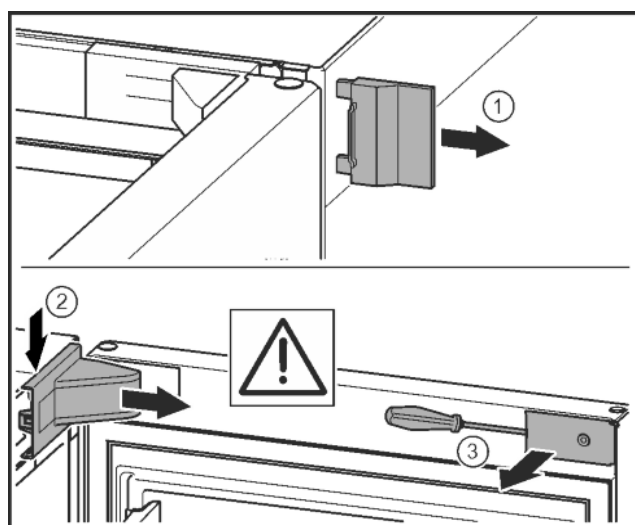

Fig. 11\*
- Remove the outer cover.\* Fig. 11 (1)
- Disengage and release the bearing bracket cover. Remove the bearing bracket cover.\* Fig. 11 (2)
- Unlatch the panel with a slotted screwdriver and swivel it to one side.\* Fig. 11 (3)